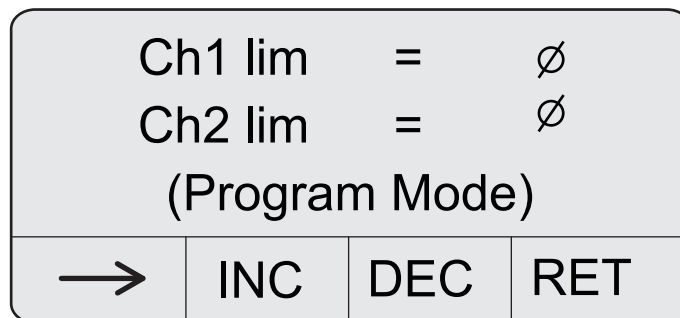

Figure 24 Set the alarm limit and hold time
6. Press **2 (DSP)** on the main screen and then press **2 (NXT)** twice to display the Alarm Limits screen (refer to Figure 24).
9. Press **2 (INC)** or **3 (DEC)** to set the alarm limits for the required settings time to 1 minute and the Hold time to 1 second (refer to Figure 24).